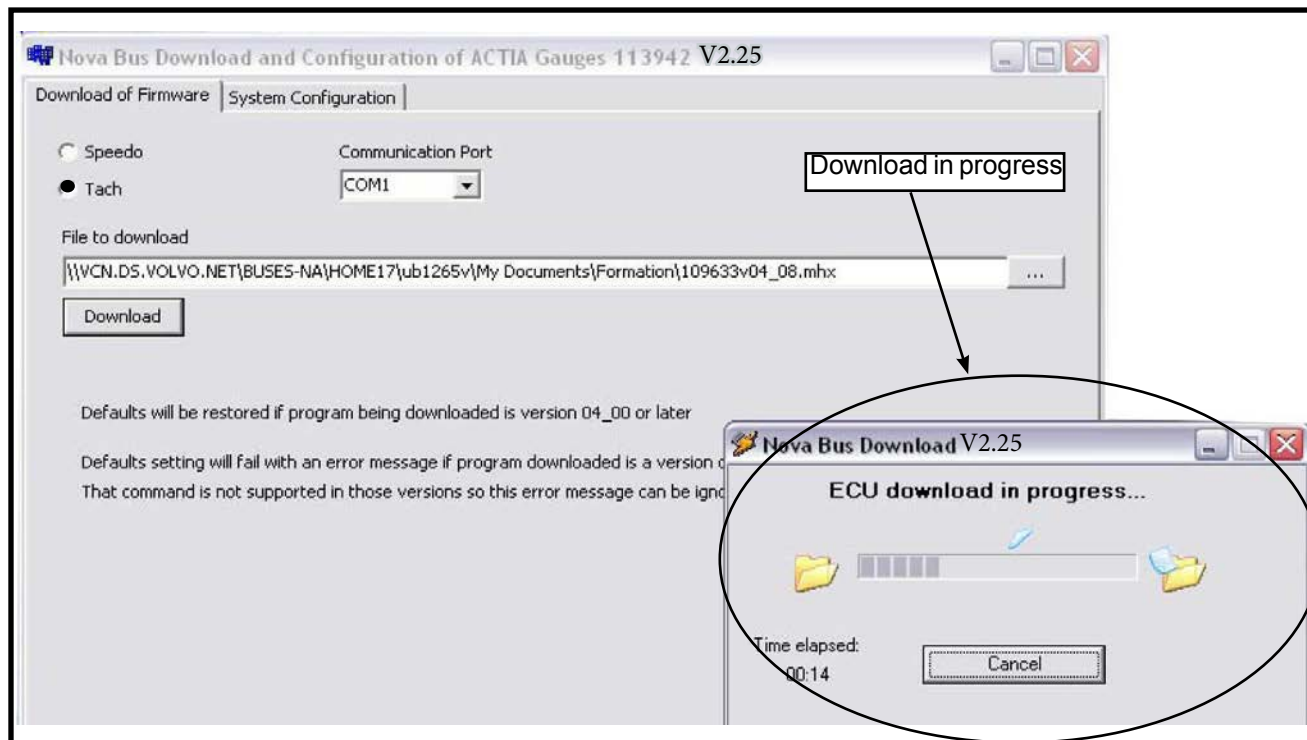

Figure 24 - Program Download
4.1.3 A download progress window is displayed. A new window opens once the download process is complete (see Figure 24).